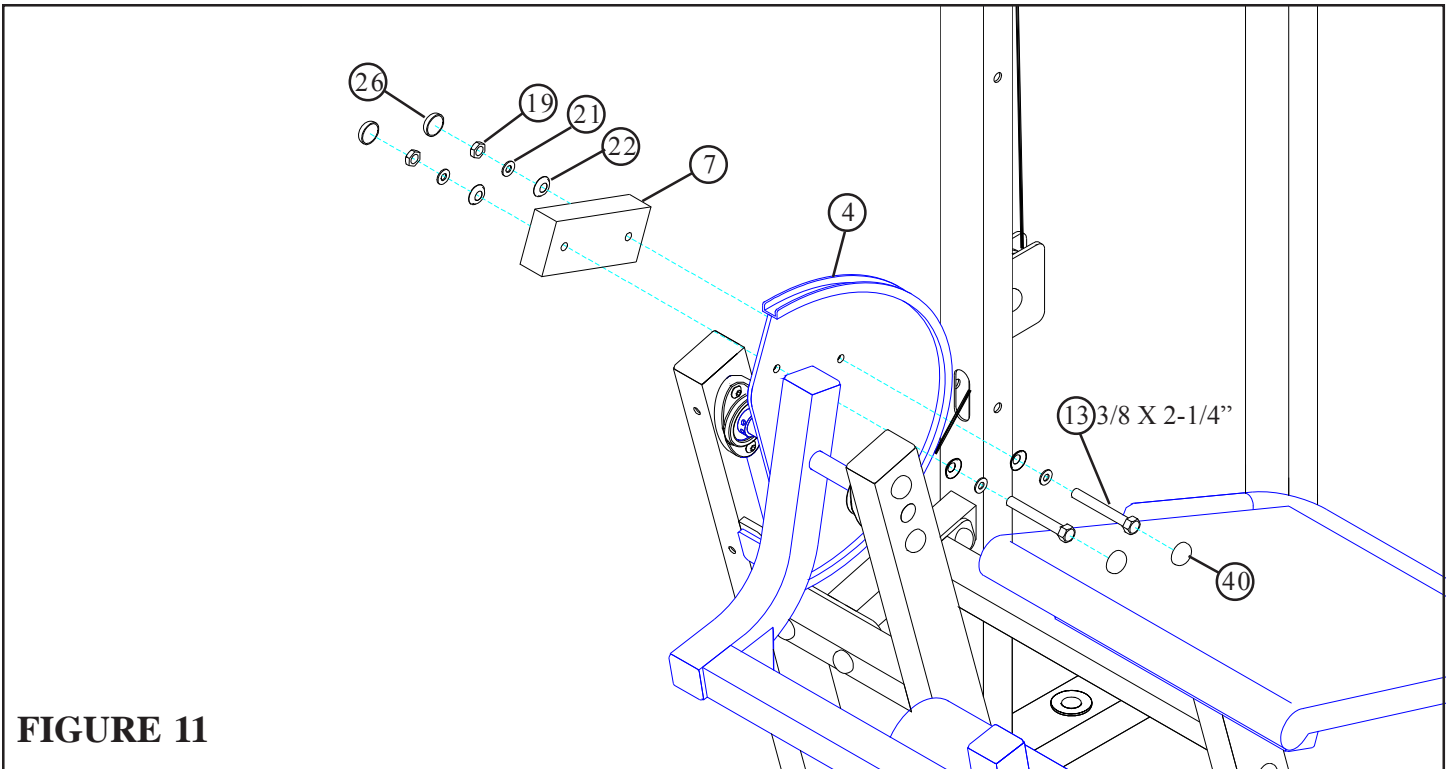

FIGURE 11
- **SECURELY** assemble the COUNTER BALANCE (7) to the PIVOT ARM (4) using two BLACK RH CAPS (26), two RH CAPS (40), two 3/8 X 2-1/4" BOLTS (13), four 3/8" SAE WASHERS (21), four 3/8" RH WASHERS (22) and two 3/8" LOW HEIGHT LOCK NUTS (19) as shown in FIGURE 11.